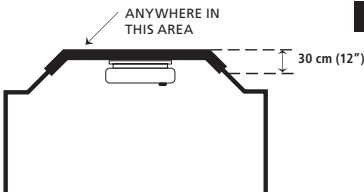

FIGURE 2D
- Install Smoke Alarms on tray-shaped ceilings (coffered ceilings) on the highest portion of the ceiling or on the sloped portion of the ceiling within 30.5 cm (12") vertically down from the highest point (Figure 2D).